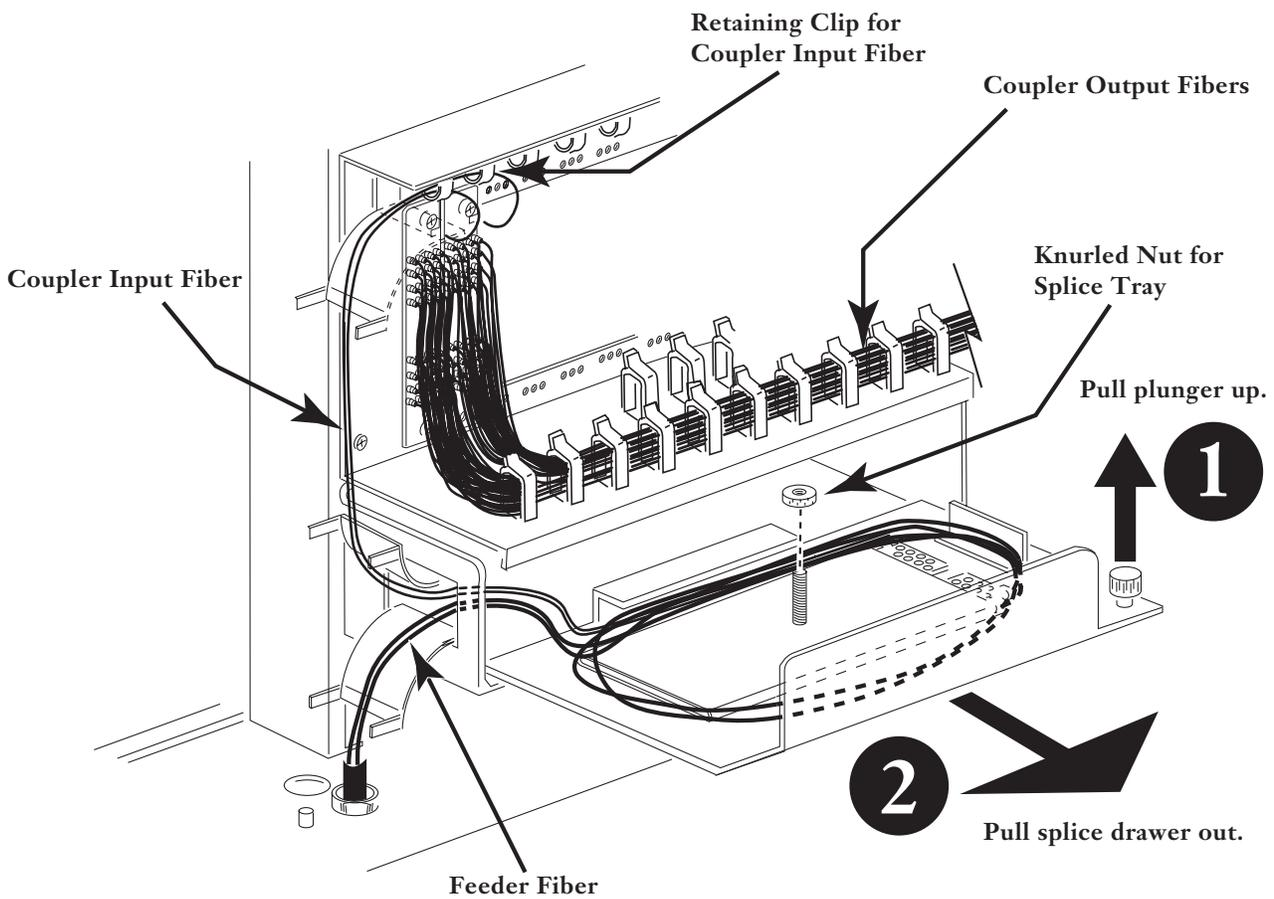

Figure 11 — Route and Splice Feeder Fiber and Coupler Module Input Fiber
Step 9 Update the coupler output fiber/distribution fiber mapping labels on the inside of the cabinet door and the housing drawers (Figure 11). Good recordkeeping is imperative for an orderly installation.
- Step 2** Route coupler input fibers to the splice drawer through the routing clips above the module field and down the left side of the cabinet as shown in Figure 11 into the splice drawer.
- Step 8** Route and store fiber slack in the splice drawer as shown in Figure 11.